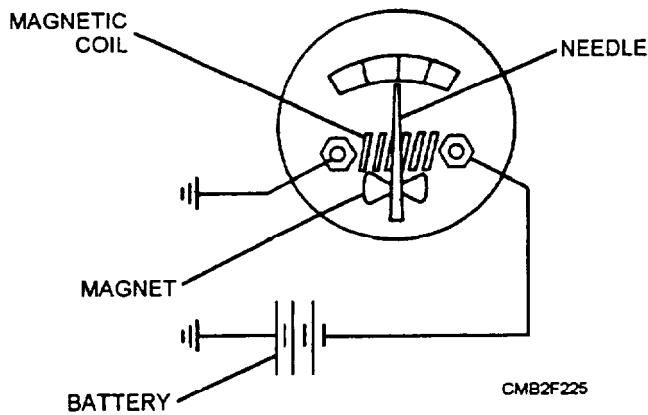

Figure 2-73.—Ammeter schematic.
- The **AMMETER** is used to indicate the amount of current flowing to and from the battery. It does NOT give an indication of total charging output because of other units in the electrical system. If the ammeter shows a 10-ampere discharge, it indicates that a 100 ampere-hour battery would be discharged in 10 hours, as long as the discharge rate remained the same. Current flowing from the battery to the starting motor is never sent through the ammeter, because the great quantities of amperes used (200 to 600 amperes) cannot be measured due to its limited capacity. In a typical ammeter (fig. 2-73), all the current flowing to and from the battery, except for starting, actually is sent through a coil to produce a magnetic field that deflects the ammeter needle in proportion to the amount of current. The coil is matched to the maximum current output of the charging unit, and this varies with different applications.